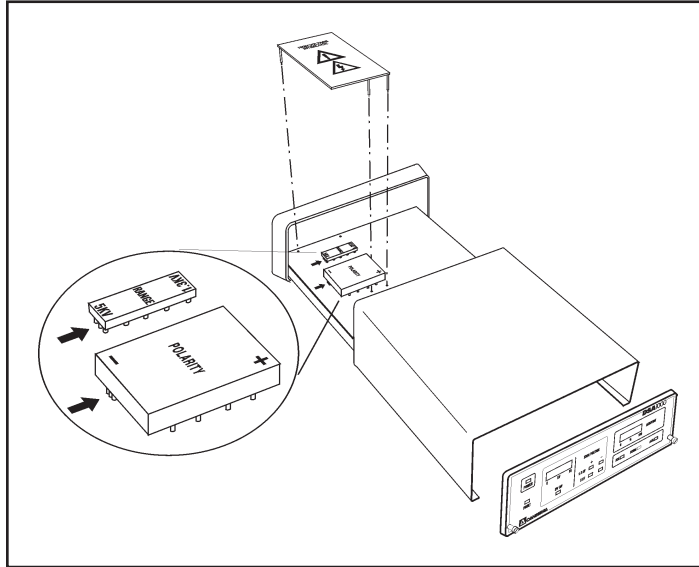

Figure 42 High Voltage Interlock Board Removed
- Carefully grasp the High Voltage (HV) Interlock Board with both hands, lift to disengage from the High Voltage Power Supply area as shown in Figure 42.
- Polarity markings (+) for positive and (-) for negative are located on each corner of the high voltage (HV) Polarity Module. The Polarity identifier arrow is located on the high voltage printed circuit board. The identifier arrow pointing to the polarity marking on the HV Polarity Module determines the polarity configuration. In Figure 42, the identifier arrow is pointing to the (-) marking on the HV Polarity Module; the power supply is configured for negative high voltage.
1. Range markings (1.3 KV) for 1300 volts and (5 KV) for 5000 volts are located on each end of the High Voltage (HV) Range Module. The Polarity identifier arrow is located on the high voltage printed circuit board. The identifier arrow pointing to the range marking on the HV Range Module determines the range configuration. In Figure 42, the identifier arrow is pointing to the 5 KV marking on the HV Range Module; the power supply is configured for the 5 kV full-scale range.